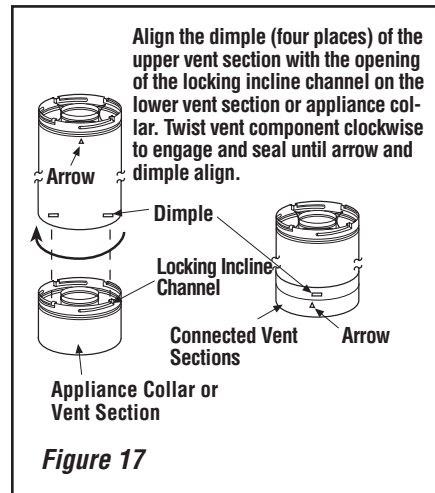

Figure 17
B. Attach vent components to appliance—Secure Vent® SV8 direct-vent system components are unitized concentric pipe components featuring positive twist lock connections (see **Figure 17**).
To attach a vent component to the appliance collar, align the dimpled end over the collar, adjusting the radial alignment until the four locking dimples are aligned with the inlet of the four inclined channels on the collar (refer to **Figure 17**). Push the vent component against the collar until it fully engages, then twist the component clockwise, running the dimples down and along the incline channels until they seat at the end of the channels. The unitized design of the **Secure Vent** components will engage and seal both the inner and outer pipe without the need for sealant or screws. If desired a #6 x 1/2" screw may be used at the joint, but it is not required as the pipe will securely lock when twisted.
Push the vent component against the previous section until it fully engages, then twist the component clockwise running the dimples down and along the incline channels until they seat at the end of the channels. **This seating position is indicated by the alignment of the arrow and dimple as shown in Figure 17.**
F. Change vent direction to horizontal/inclined run—At transition from or to a horizontal/inclined run, install the SV8 E45 and SV8 E90 elbows in the same manner as the straight vent sections. The elbows feature a twist section to allow them to be routed about the center axis of their initial collar section to align with the required direction of the next vent run element. **Twist elbow sections in a clockwise direction only so as to avoid the possibility of unlocking any of the previously connected vent sections.** See **Figure 17** on **Page 16** and **Figure 19**.
Secure Vent SV8 direct-vent system components are unitized concentric pipe components featuring positive twist lock connection, (refer to **Figure 17 on Page 16**). All of the appliances covered in this document are fitted with collars having locking inclined channels. The dimpled end of the vent components fit over the appliance collar to create the positive twist lock connection.
C. Frame ceiling opening—If the vertical route is to penetrate a ceiling, use plumb line to locate the center above the appliance. Cut and/or frame an opening, 13" x 13" (330 mm x 330 mm) inside dimensions, about this center (refer to **Figure 17 on Page 16**).
E. Attach vent components to each other—Other vent sections may be added to the previously installed section in accordance with the requirements of the vent tables. To add another vent component to a length of vent run, align the dimpled end of the component over the inclined channel end of the previously installed section, adjusting the radial alignment until the four locking dimples are aligned with the inlets of the four incline channels of the previous section. Push the vent component against the previous section until it fully engages, then twist the component clockwise running the dimples down and along the incline channels until they seat at the end of the channels. **This seating position is indicated by the alignment of the arrow and dimple as shown in Figure 17 on Page 18.**
H. Change vent direction—At transition from or to a horizontal/inclined run, install the SV8E45 and SV8E90 elbows in the same manner as the straight vent sections. The elbows feature a twist section to allow them to be routed about the center axis of their initial collar section to align with the required direction of the next vent run element. **Twist elbow sections in a clockwise direction only so as to avoid the possibility of unlocking any of the previously connected vent sections (see Figure 17 on Page 18).**